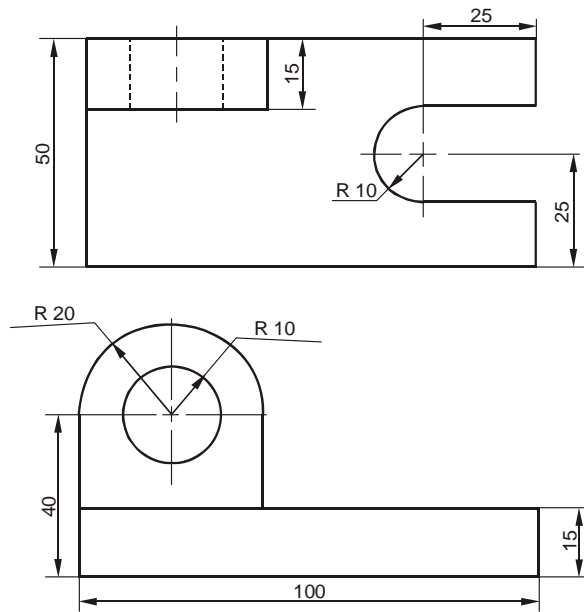

Figure 5.17
- (c) Figure 5.17 shows the orthographic views of a machine bracket. Draw its oblique view.